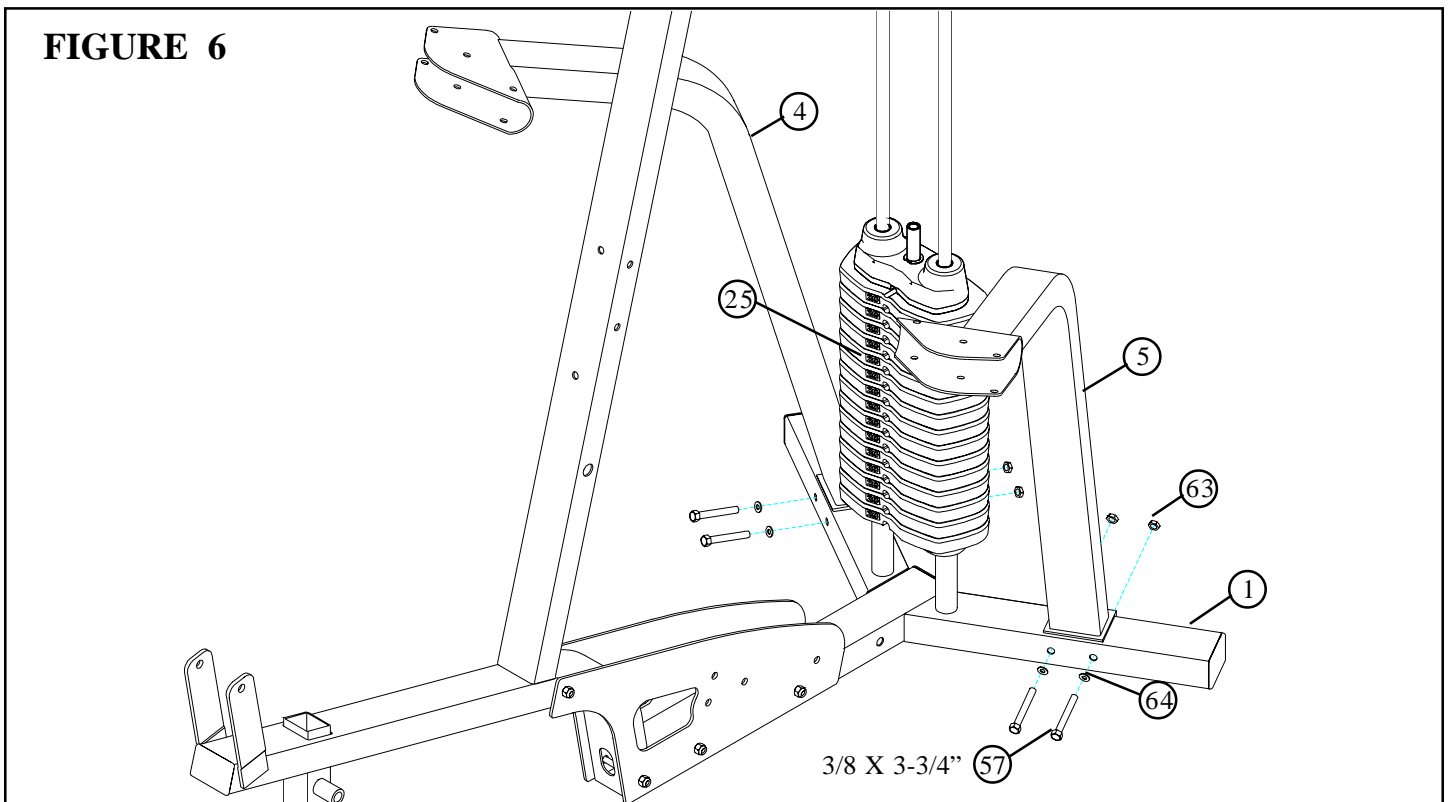

**FIGURE 5**
- Swing the GUIDE RODS (18) into the guide rod bushings in each of the RIGHT and LEFT UPRIGHT PLATES (14 & 15) as shown in FIGURE 5.
- **LOOSELY** assemble the RIGHT and LEFT UPRIGHT PLATES (14 & 15) to the UPRIGHT (2) using three 3/8 X 3-3/4" BOLTS (57) and three 3/8" LOCK NUTS (63). See FIGURE 5.
- Slide the SHAFT COLLARS (36) to the top of the GUIDE RODS (18) and tighten set screws as shown in FIGURE 5.